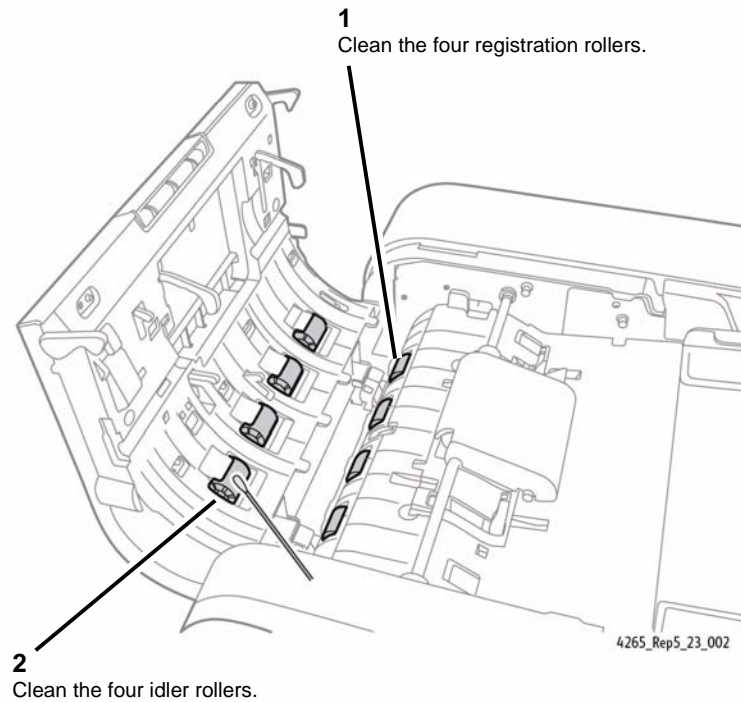

Figure 2 Cleaning the Registration and Idler Rollers
4. With the Top Cover open, clean the rollers (Figure 2).